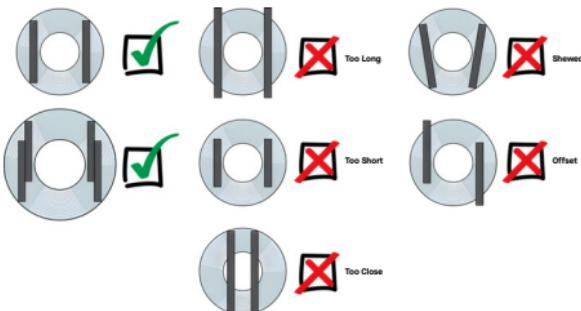

Figure 9. Correct and incorrect dunnage placement.
- Suggestions of dunnage placement are provided in Figure 9.